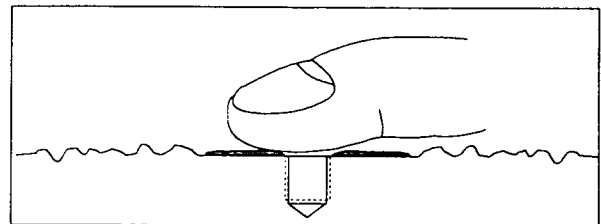

**Figure 5.** Mounting Surface Preparation
**STEP 1:** First, prepare a smooth, flat mounting surface, and then drill and tap a mounting hole in the center of this area as shown in Figure 5.